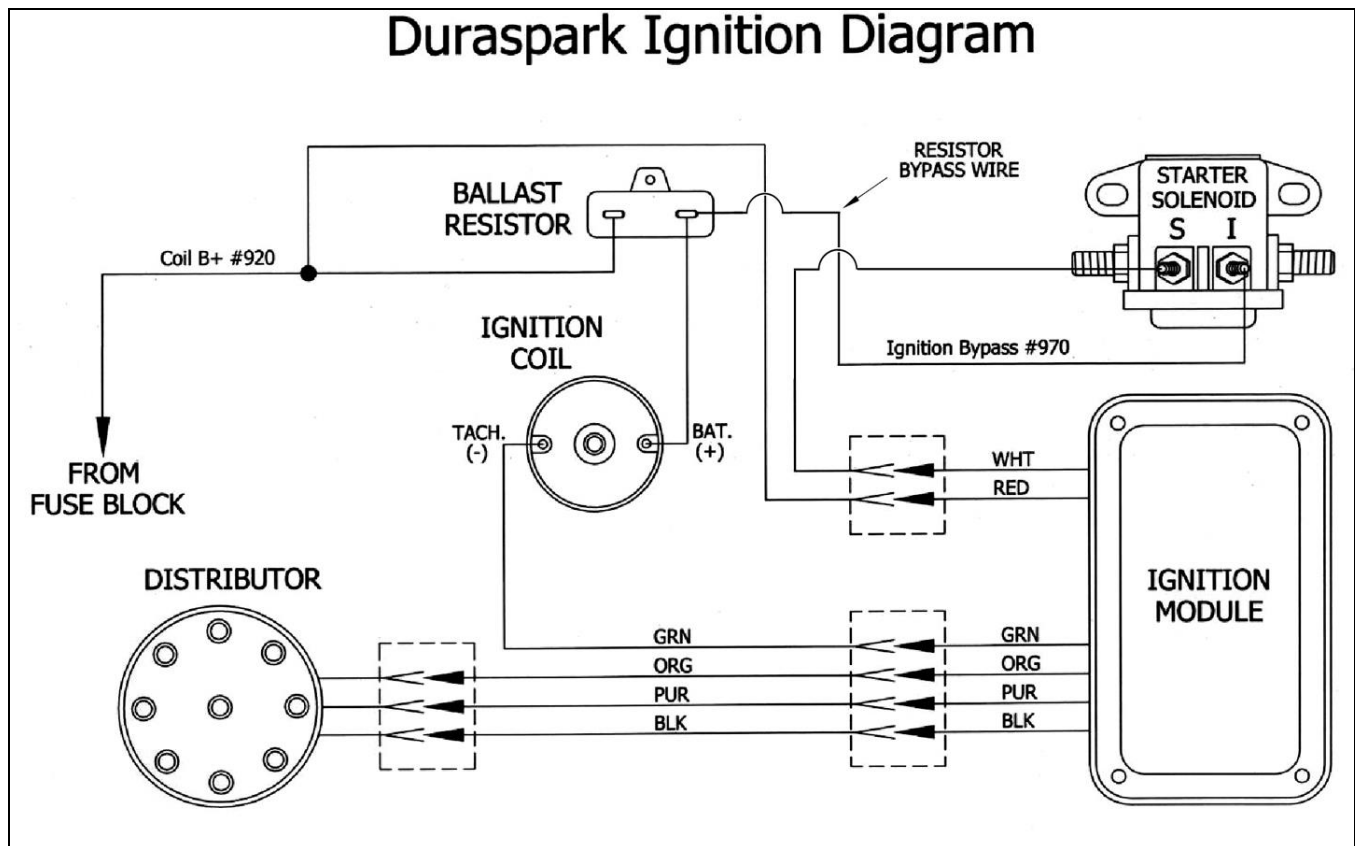

Figure 7-9 Ford Duraspark II Systems (Ford Electronic Ignition)
Electronic: 7.3.4 and Figure 7-9
- 7.3.4** If the truck has a Ford Duraspark II Electronic Ignition system refer to **Figure 7-9** for wiring details. If the terminals in the plugs on the stock Duraspark Ignition harness are corroded or the wires are frayed, then the harness will need to be replaced with **Painless Wiring P/N 30812**.